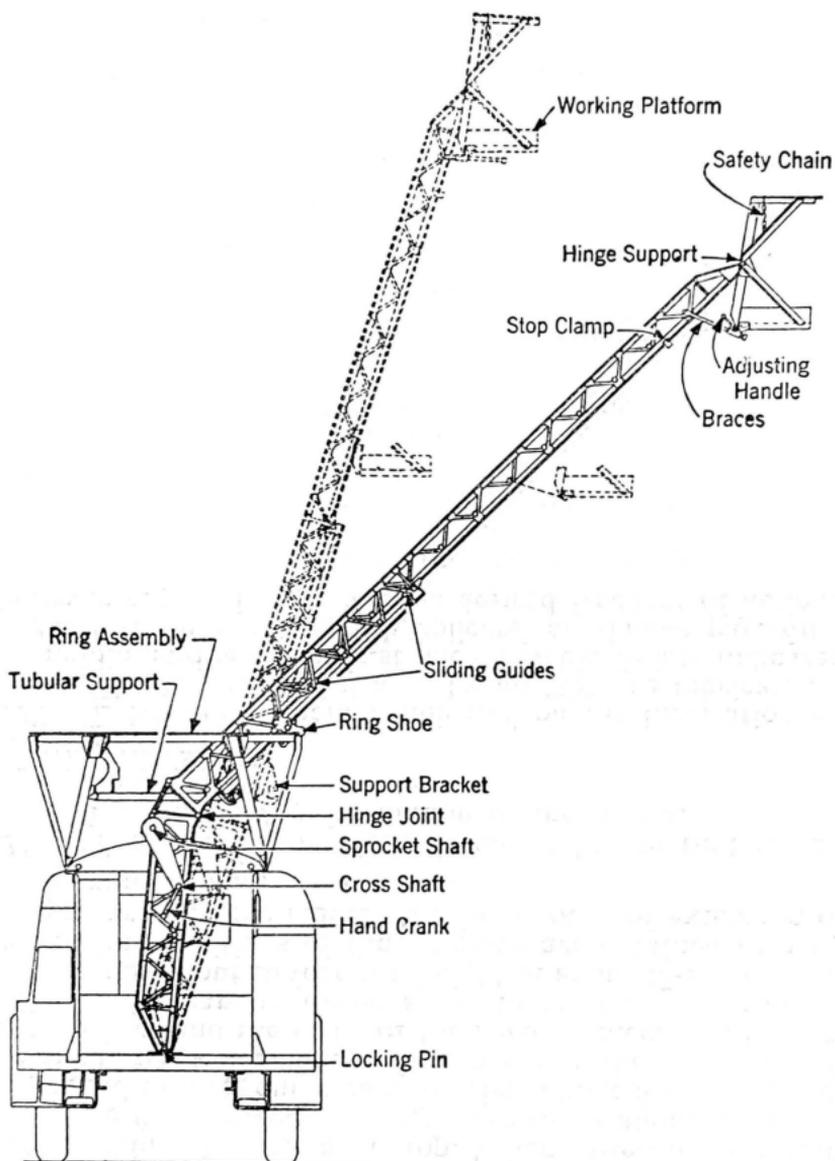

Fig. 2
2.02 When erected in its working position the ladder stands upon the floor of the truck and leans against the top of the Ring Assembly so that it extends upward and outward beyond it as shown in Fig. 2. It pivots about the locking pin in the floor of the truck so that the ladder can be pushed around the ring into any desired position.
10.04 Two stop clamps, one on the under side of each of the two rails in the upper ladder section, limit the downward travel of the upper section. See Fig. 2. If the ladder is not equipped with these stops they should be added. They are clamped to the "T" members and can be loosened and moved. They should be just high enough on the ladder rails to permit the upper section to be lowered to the point where the rung hooks pass the bottom rung on the lower section and release the trips. Both stops should make contact with the tops of the rail guides on the lower section at the same time.